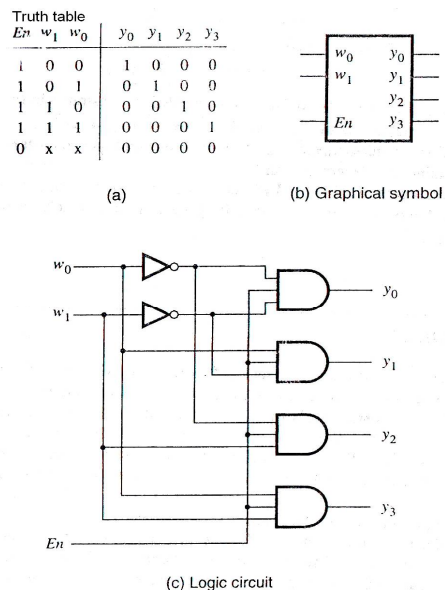

Fig. 8-1: a 2-to-4 Decoder circuit
Step 1: Install the components of Fig 8-1(c) onto the breadboard of AT-700 and properly link the connections. Use two 2-input AND gates to implement a 3-input AND gate. Remember to connect each IC's pin 14 to "+5V" of DC power supply of AT-700 and pin 7 to "GND".
Step 2: Connect the Data switches "0", "1" and "2" to points *En*, *w0* and *w1* of fig. 8-1(c) respectively. Then connect 8 bit LED Display's "0", "1", "2" and "3" to the points Y0, Y1, Y2 and Y3 of Fig. 8-1(c) respectively.
Step 3: Change Data Switches "0", "1" and "2" between "0" and "1" position and observe the situation of 8 bit LED Display "0", "1", "2" and "3". The LED is light that indicates the output is in the logic 1 condition. When LED is dark, it indicates that the output is in the logic 0 condition. Reconstruct and verify the truth table of Fig. 8-1(c).